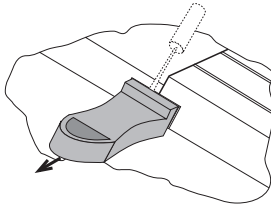

Fig. 2
- Hold the bolt and pull it right out turning it slightly (Fig. 2 and 3).